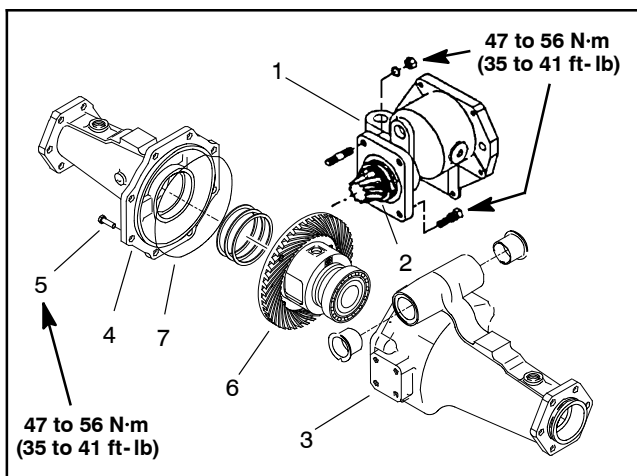

Figure 37
3. Remove input shaft/pinion gear assembly, shims and O-ring from the axle support (Fig. 37).